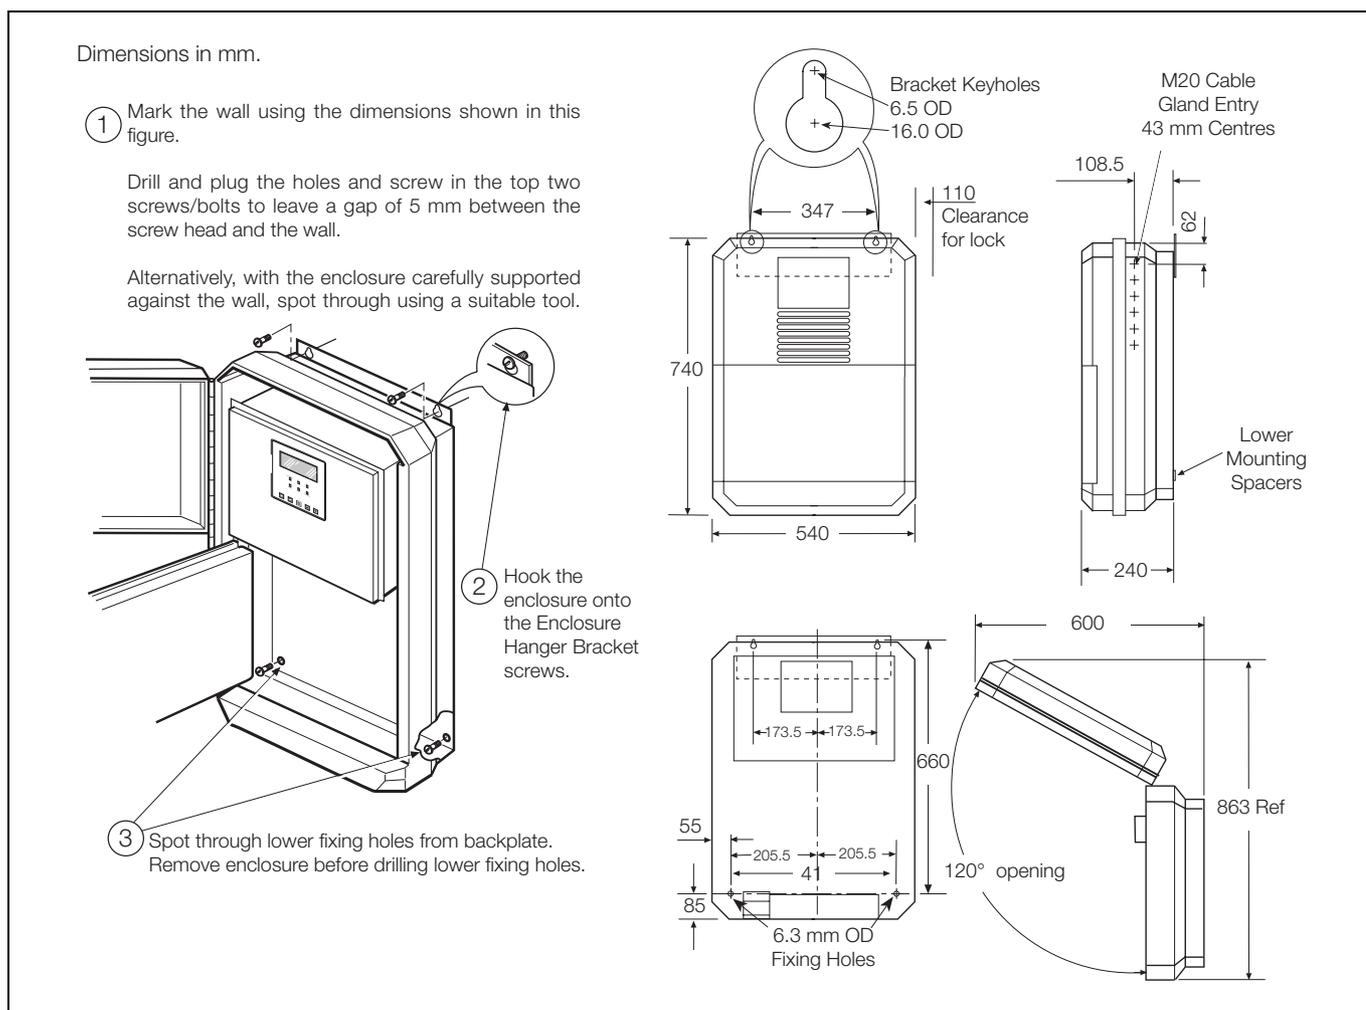

Fig. 2.1 Mounting the Unit
2.3 Mounting – Fig. 2.1
See Fig. 2.1 for mounting procedure and enclosure dimensions.